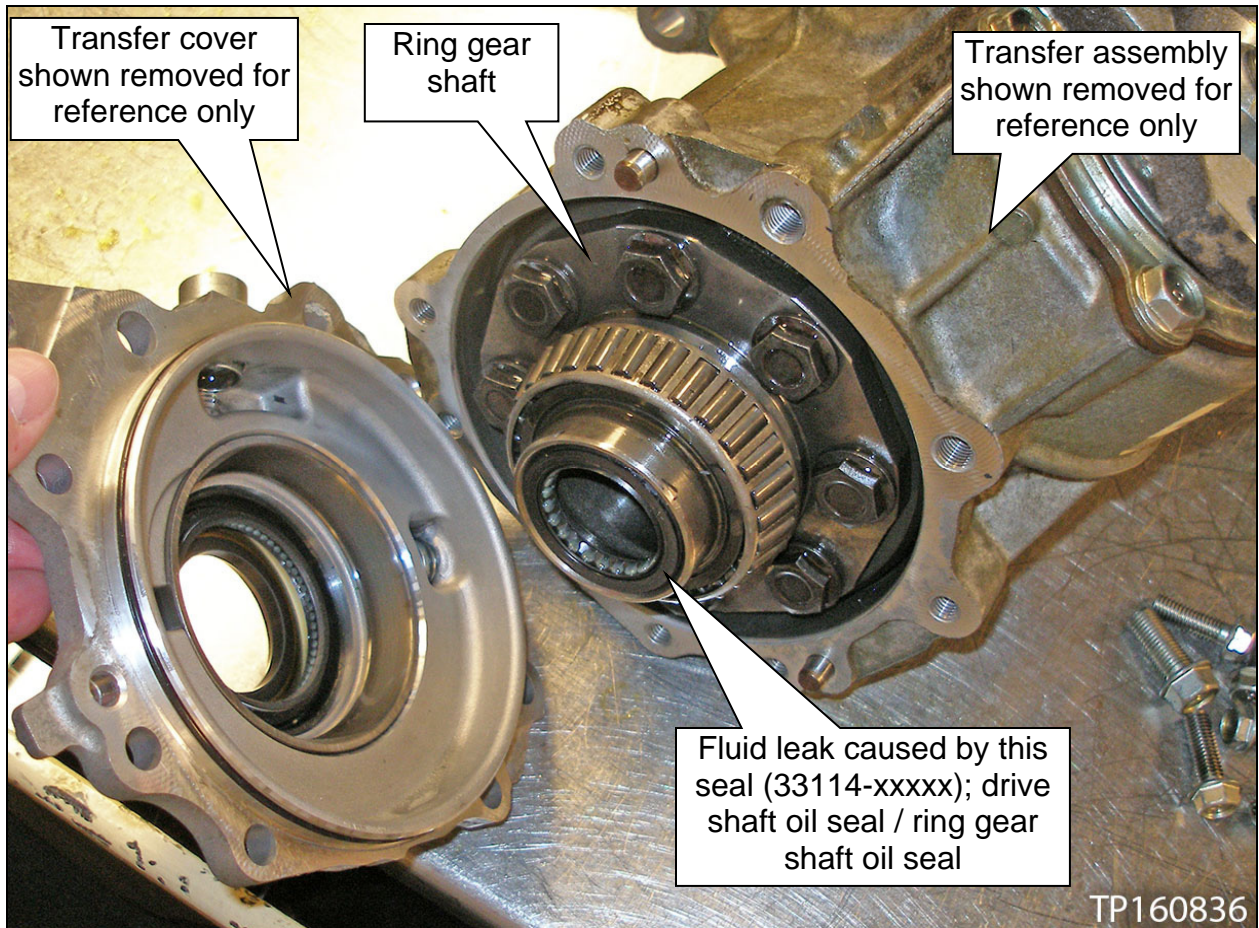

Figure 7
- Figure 7 shows the transfer assembly removed from the vehicle and the transfer cover removed from the transfer assembly for reference only.